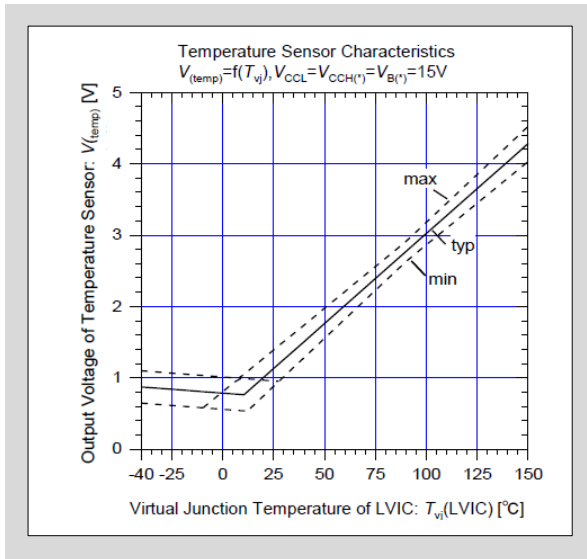

Fig. 3-24 LVIC virtual junction temperature vs. TEMP output voltage characteristic (without pull-down resistor)
- Fig. 3-24 shows the LVIC virtual junction temperature versus TEMP output voltage characteristics. In the case of the MPU power supply voltage is 3.3V, connect a Zener diode to the TEMP terminal. The output voltage shows clamp characteristic at below room temperature. Connect a 5k Ω ±10% pull-down resistor $R_{pull\,down}$ to the TEMP terminal if linear characteristic is required.